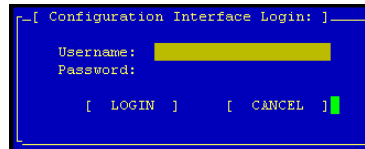

Figure 223. Enter User Name and Password
1. From the Configuration Interface entry window, press Enter to start the log in process. The Configuration Interface Login window opens, shown in Figure 223.